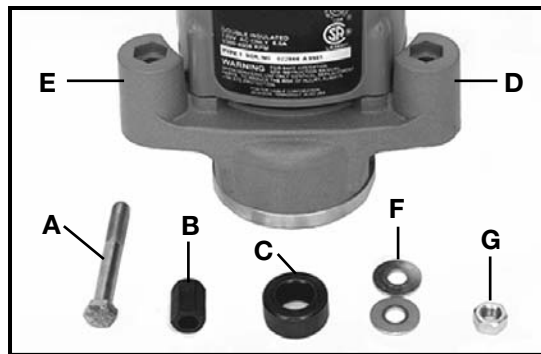

Fig. 1
2. Slide one of the washers (F) and then the hex spacer (B) onto the bolt (A) Fig. 1.
3. Place collar (C) over the hex spacer and position the bolt assembly to either the left or right handle boss (D or E).